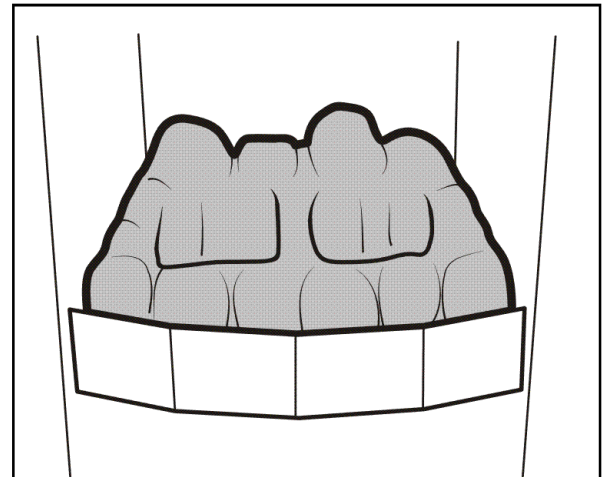

Figure 1 Rear base pebble position
1. Place the base pebble in the firebox. It should rest on the ledges at the rear sides of the burner unit (See figure 1).